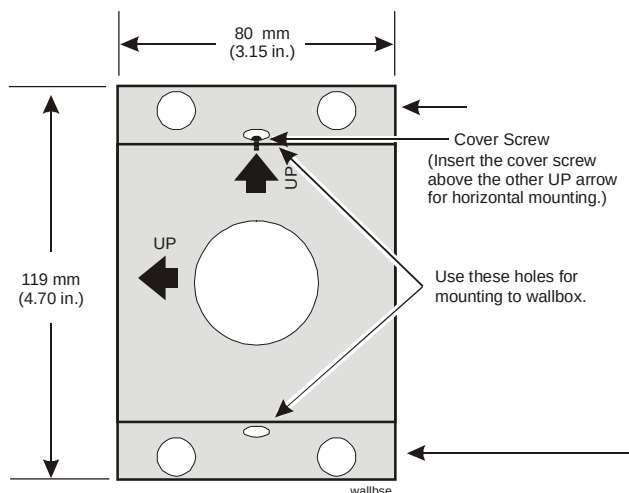

Figure 4: Wallplate (Shown Vertical)
1. Remove the cover screw from the wallplate (Figure 4).